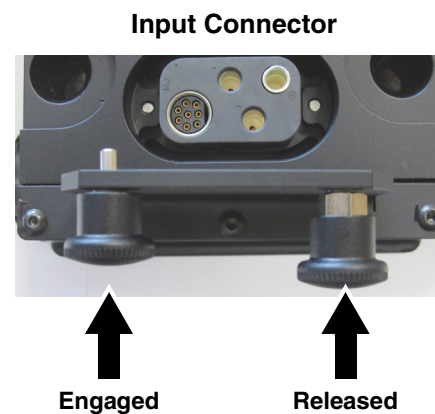

Figure 5: Input Connector locks
4. See Figure 5. Turn both the locks on an EC-Series Input Connector fully counter-clockwise to the released position.